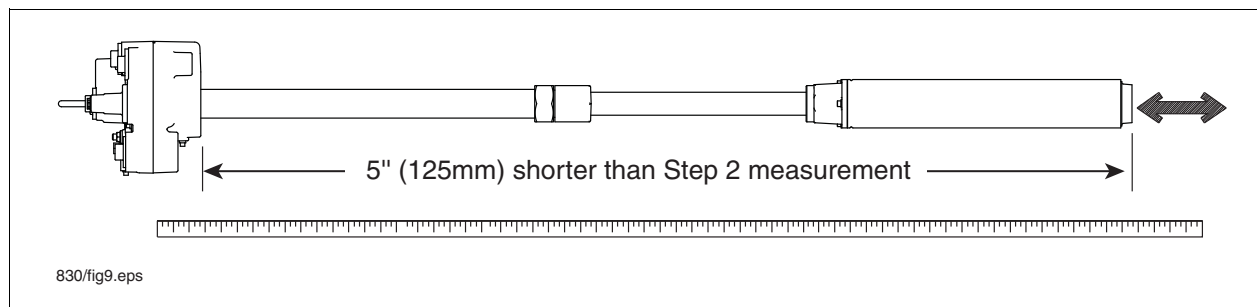

Figure 10. Adjusting Pump Length
Note: For fixed-length pumps, referencing Figure 10, verify the distance between the bottom of the manifold and the bottom of the UMP is 5 inches (125mm)(15 inches [381mm] for floating suction) shorter than the distance measured in Step 2. Uncoil the pigtail at the top of the packer. Then go to Step 7.
5. Referencing Figure 10, pull the UMP end until the distance between the bottom of the manifold and the bottom of the UMP is 5 inches (125 mm) (15 inches [381 mm] for floating suction) shorter than the distance measured in Step 2.